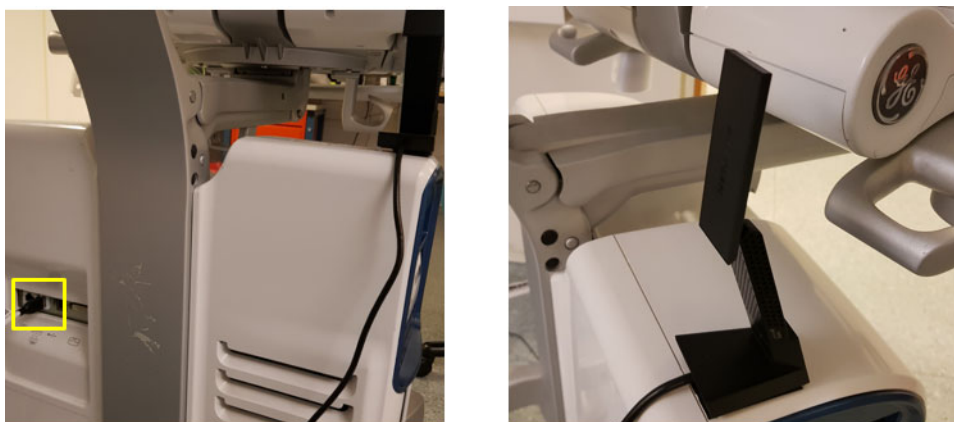

Figure 3-28 Placement/Connection wireless network adapter
- 2.) Insert the wireless network adapter into the USB-dock, place the dock onto the Velcro strip on plastic cover to fasten it. Connect docking USB-port to rear I/O USB-port on the ultrasound system. See Figure 3-28 below for guidance: